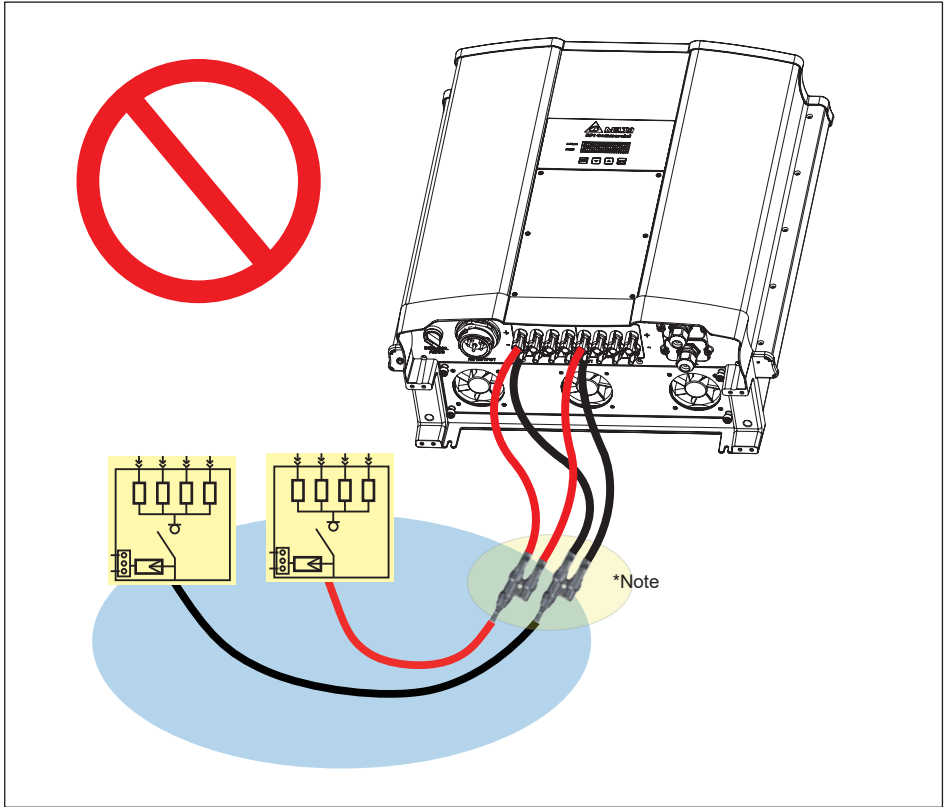

**Figure 4-8 : Wrong connection – 2**
- Also, you can't use two or more branch to share the current from combiner box to each DC connector of inverter (Shown as **Figure 4-8**).